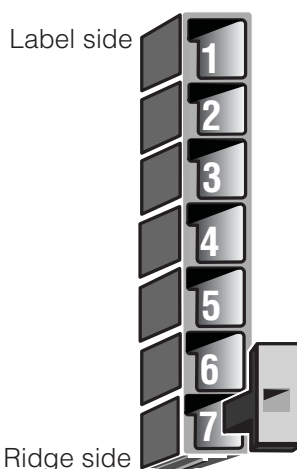

Figure 1. DNA IQ™ Reference Sample Cartridge.
The DNA IQ™ Reference Sample Kit for Maxwell® 16 uses the DNA IQ™ Resin to purify samples, providing consistent DNA concentration and reliable STR analysis. The Maxwell® 16 Instrument is a magnetic-particle-handling instrument that efficiently transports the DNA IQ™ Resin through purification reagents in prefilled cartridges (Figure 1), mixing the resin with the reagents during processing. The paramagnetic-based methodology avoids common problems experienced with automated systems, such as clogged tips or partial reagent transfers, which can lead to suboptimal purification.
1. Place the number of cartridges to be used into the cartridge preparation rack. Place each cartridge into the holder with the ridged side of the cartridge (Figure 1) facing towards the numbered side of the rack. Hold the cartridge firmly and remove the seal.